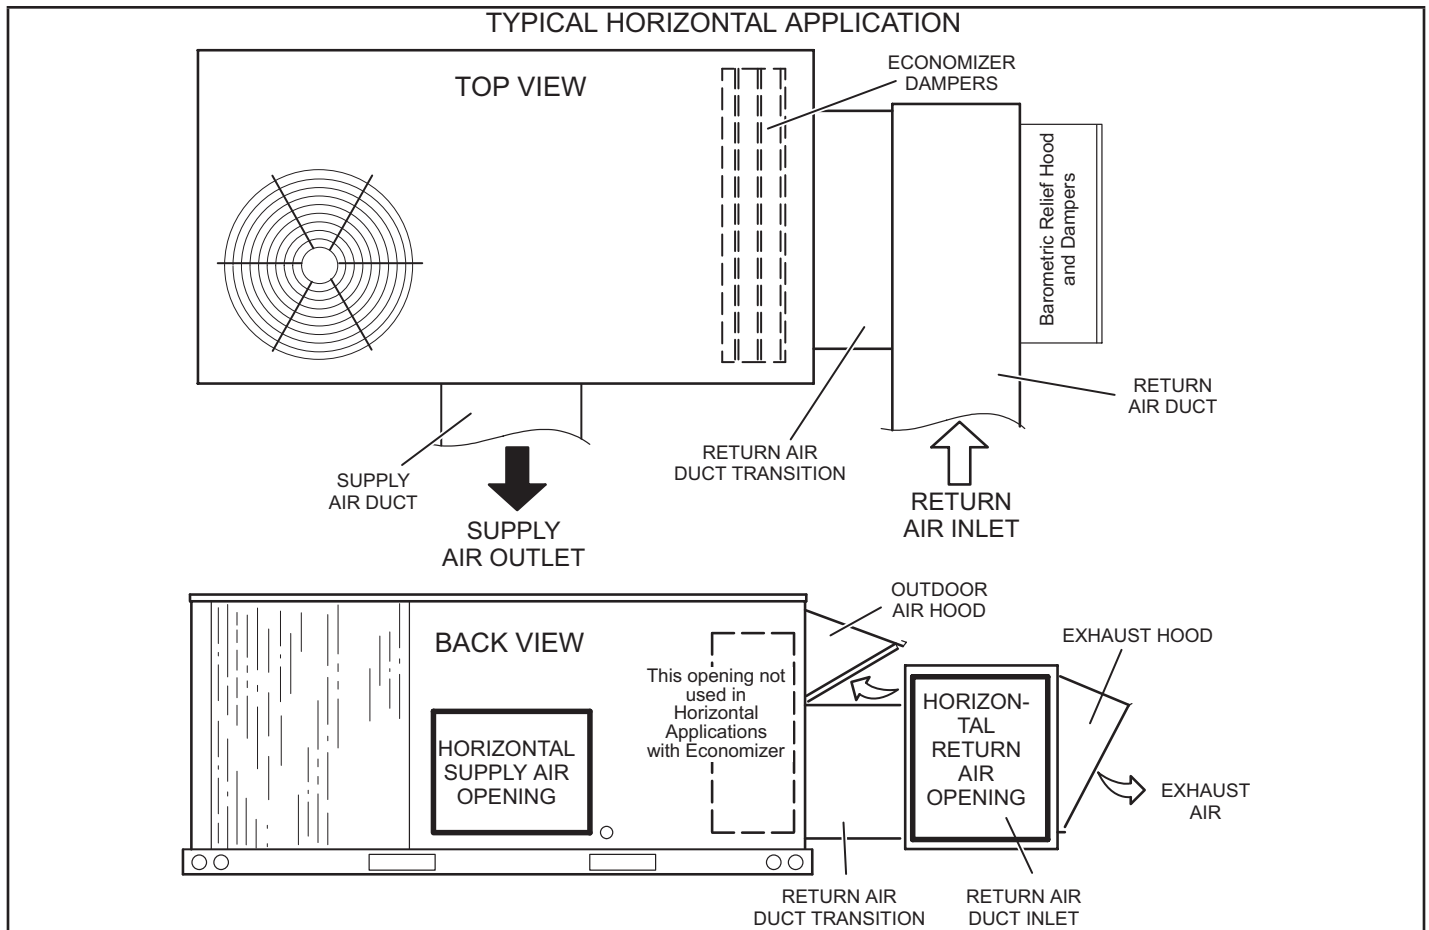

FIGURE 12
- 5 - Install the field-fabricated return air duct transition and duct inlet on the unit end. See FIGURE 12. Support the transition and duct inlet as needed.